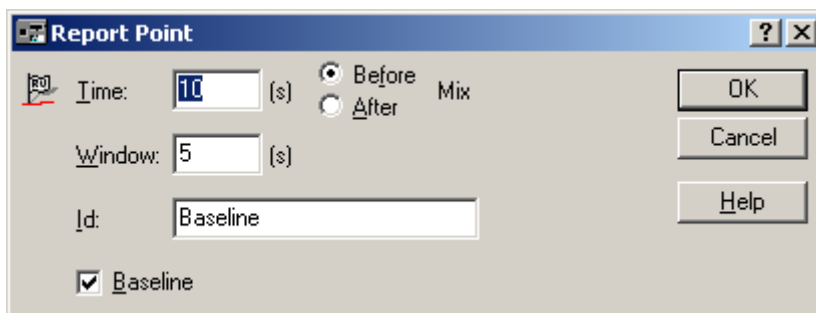

Figure 2.9
- 2.12.2 Report Point window (Fig. 2.9) will open.
- 2.12.3 Type in the information as shown in the Report Point window (Fig 2.9).